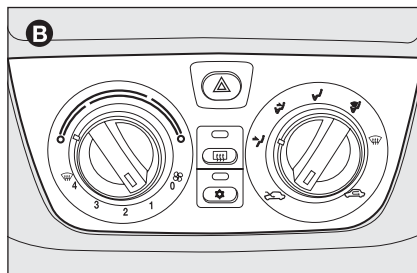

fig. 5
- ☐ with manual climate control system **B-fig. 5**;